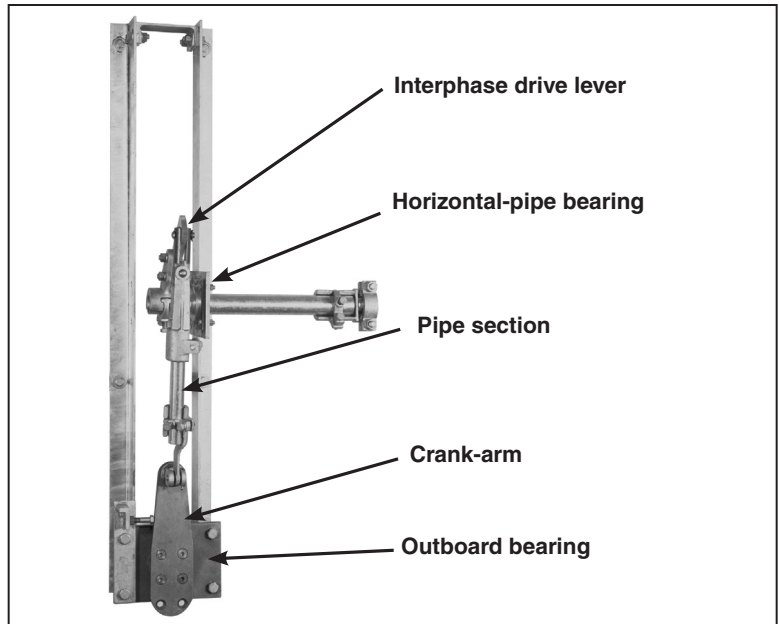

Figure 35. Adjust the effective length of the pipe section interconnecting the outboard bearing crank-arm and the interphase drive lever.
- (e) If more or less stroke is required, increase or decrease the effective length of the pipe section interconnecting the outboard bearing crank-arm and the interphase drive lever by loosening one of the coupling clamps and repositioning the pipe. See Figure 35.